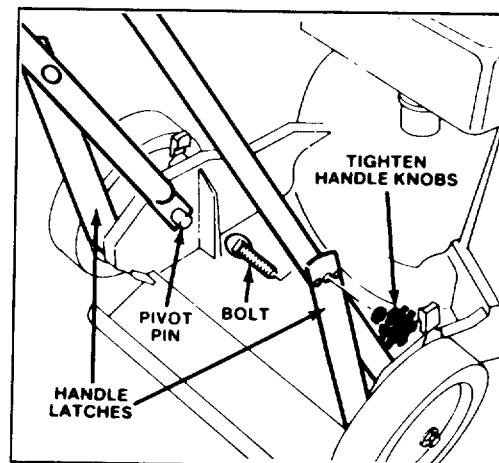

Figure 1
1. LOWER HANDLE (Fig. 1)—Push ends of lower handle together and install on pivot pins. Insert bolts through hole in handle latches and install handle knobs. Tighten securely. Assure control cable is to the rear and inside of handle.